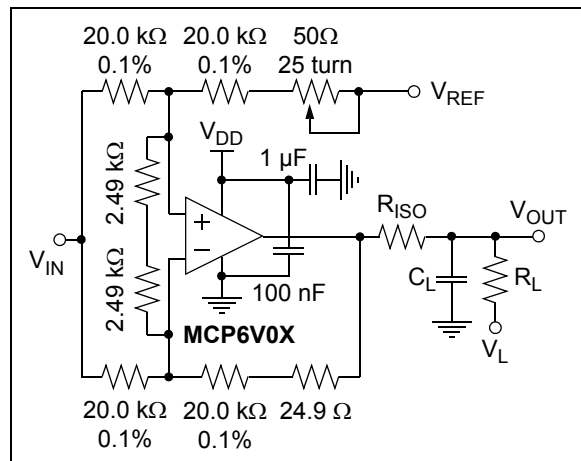

FIGURE 1-7: Test Circuit for Dynamic Input Behavior.
- Note 1:** These parameters were characterized using the circuit in Figure 1-7. Figure 2-37 and Figure 2-38 show both an IMD tone at DC and a residual tone at 1 kHz ; all other IMD and clock tones are spread by the randomization circuitry.
The circuit in Figure 1-7 tests the op amp input's dynamic behavior (i.e., IMD, t_{STR} , t_{STL} and t_{ODR}). The potentiometer balances the resistor network (V_{OUT} should equal V_{REF} at DC). The op amp's common mode input voltage is $V_{CM} = V_{IN}/2$. The error at the input (V_{ERR}) appears at V_{OUT} with a noise gain of 10 V/V.